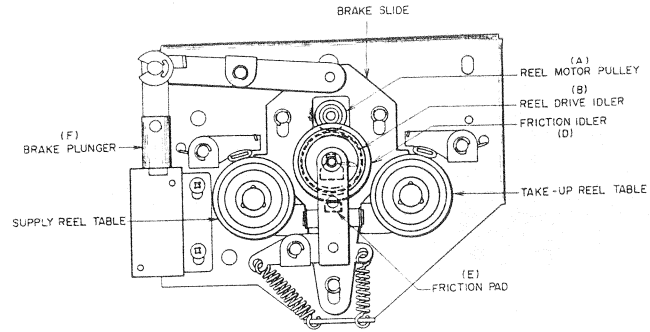
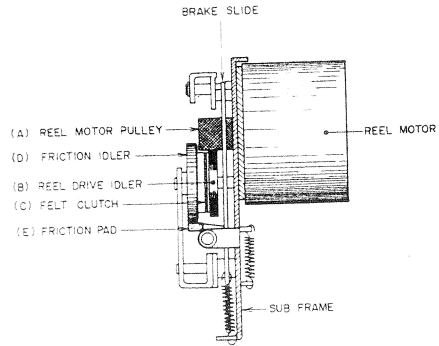

Fig. 5
Fig. 6
This mechanism employs the principle whereby the reel drive idler [Fig. 5 (B), Fig. 6 (B)] is regulated by the take-up side and the supply side depending on the direction of the reel motor pulley rotation. [Fig. 5 (A), Fig. 6 (A)]
To ensure this transition, a felt clutch [Fig. 6 (C)] has been placed between the reel drive idler and the friction idler on the same axis [Fig. 5 (D), Fig. 6 (D)], and a spring to pull the two idlers for friction.
Damping force is applied only to the friction idler with the friction pad [Fig. 5 (E), Fig. 6 (E)] only when changing from the Stop Mode to the tape travel mode. This damping force is stopped just before the tape travel. Brake Plunger [Fig. 5 (F)] is used for moving the mechanism to put the reel drive idler in contact with the reel table and for controlling the friction pad.